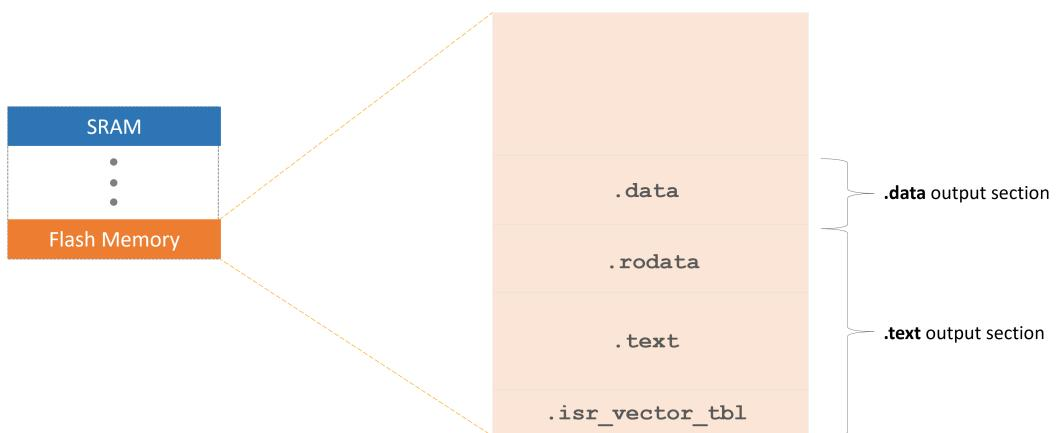

Figure 4.7: The flash memory area showing the order in which sections should be placed
*Figure 4.7* shows a zoomed-in view of the flash memory area, showing the required order for placing the different sections within the flash memory. Each section represents the combination of identical sections from all input files. For instance, the `.text` section depicted is a unified `.text` section, formed by merging all `.text` sections from the input files.